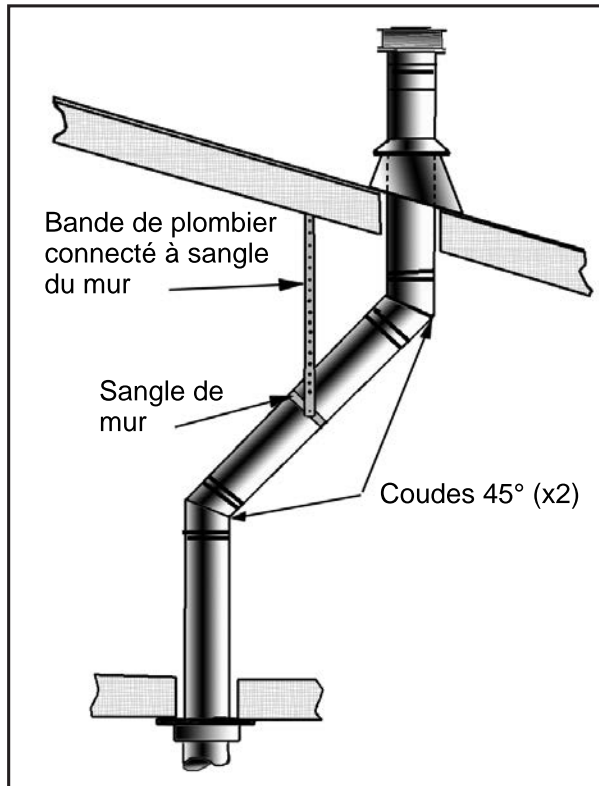
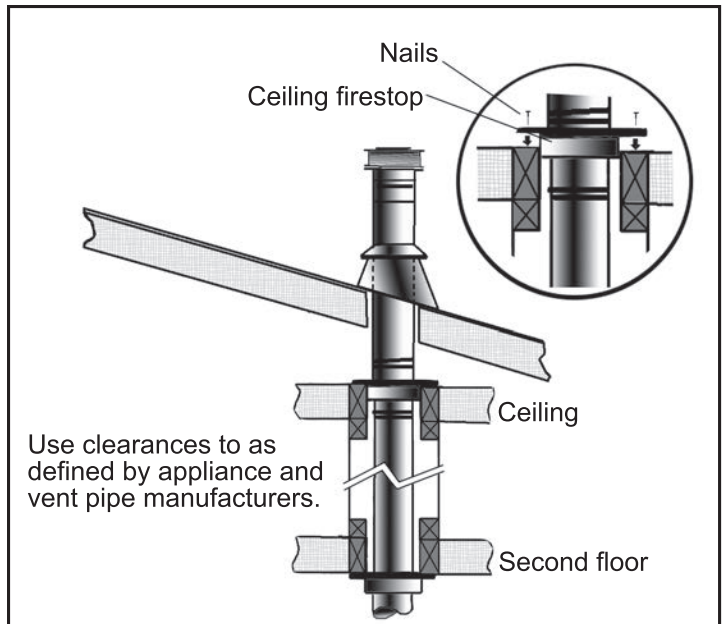

Figure 44: Use of Wall Straps.
Figure 45: Multi-Story Vent Pipe Installation.
- (1) If an offset is necessary in the attic to avoid obstructions, it is important to support the vent pipe every 3 feet (914 mm), to avoid excessive stress on the elbows, and possible separation. Wall straps are available for this purpose (see Figure 44).
- (2) When ever possible, use 45° degree elbows instead of 90° degree elbows. The 45° degree elbow offers less restriction to the flow of flue gases and intake air.
- (3) For multi story installations; a ceiling firestop is required at the second floor, and any subsequent floors (see Figure 45). The opening should be framed to 10" (254 mm) x 10" (254 mm) inside dimensions, in the same manner as shown in Figure 31.
- (4) Any occupied areas above the first floor, including